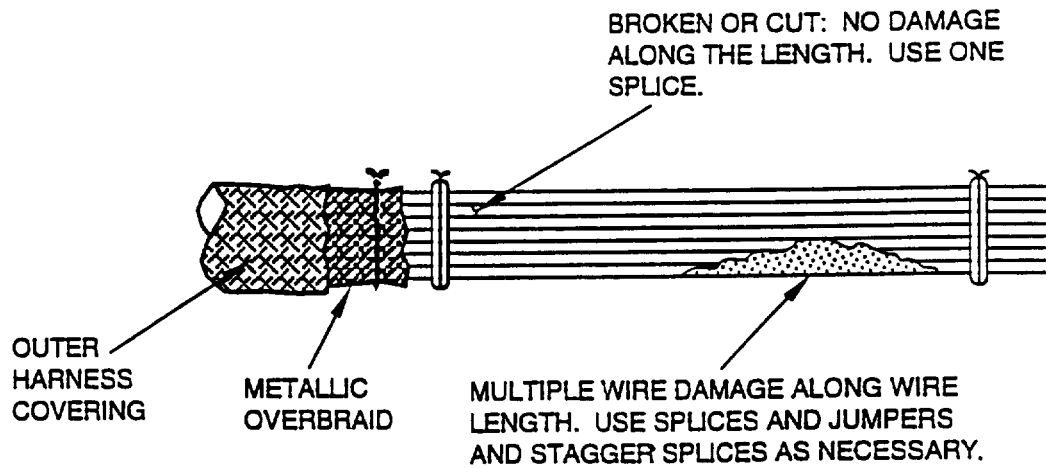

Figure 38. Examine Wire for Damage
c. Uncover all areas of wire damage (Figure 38).